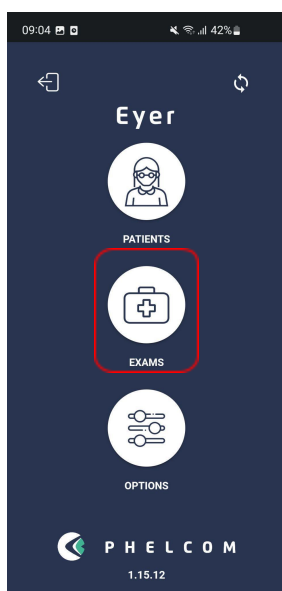
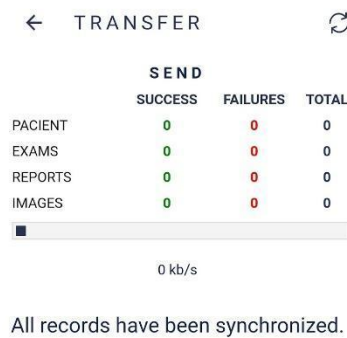

Figure 25 - Home screen - Select exams
Figure 33 – Device transfer status
1. On the home page, the user must click on "Exams", as shown in figure 25
After login, a screen displays, figure 25. It enables accessing all system functions: patients, exams, and options. Click the synchronization icon  , figure 25, to check transfer status, figure 33.
Access option 1, “Patients”, in the main screen, figure 25, to register, visualize, alter information, as well as carry out exams and diagnostics through patient information.
Selecting icon 1, figure 25, displays a screen as in figure 34. Here, a list of registered patient names displays. Activate button  and insert patient information. Highlighted fields in figure 35 must be filled in.